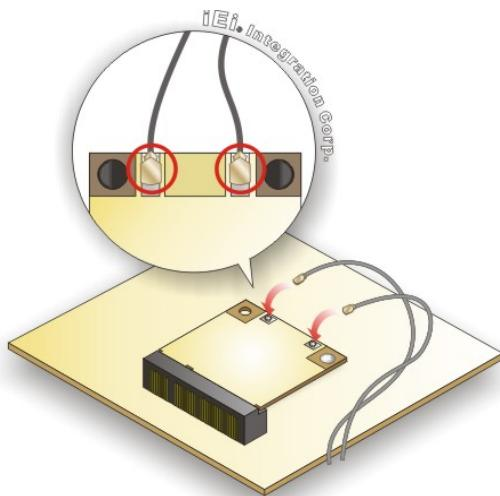

Figure 3-6: Connecting RF Cables
Step 5: Connect the RF cable(s) from the system to the antenna connector(s) on the WLAN/WWAN module (**Figure 3-6**).